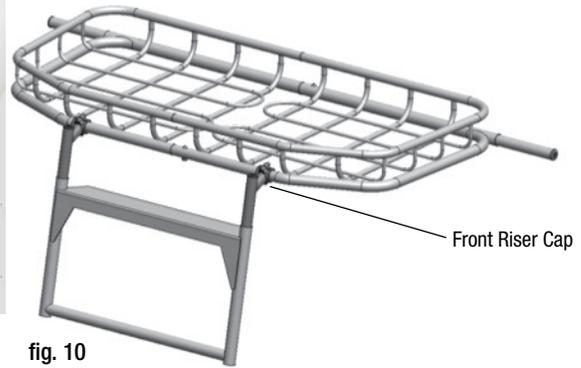

fig. 10
- 9 Attach the riser assembly to the front of the hood rack and bolt the two front riser caps in place as shown in figure 10. Using a #5 allen wrench, snug the cap bolts, but keep them loose enough to allow rotation. Make sure all 4 clamps are open, then set the rack in place.